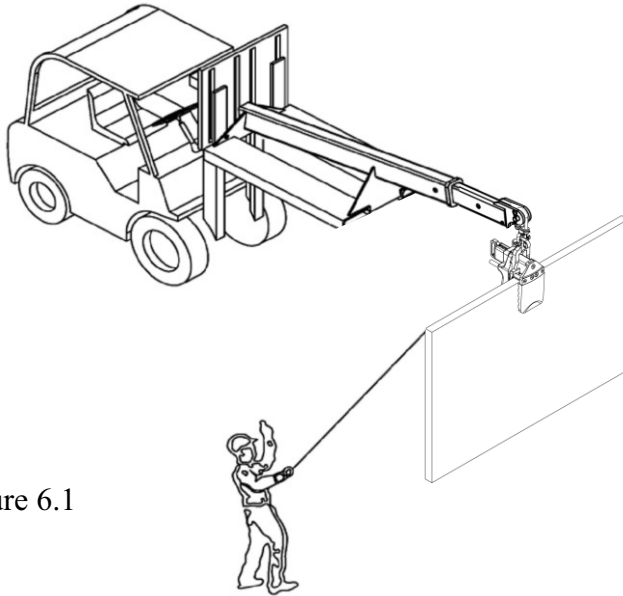

Figure 6.1
Step 6: Move the stone slab to the desired position (Figure 6.1).